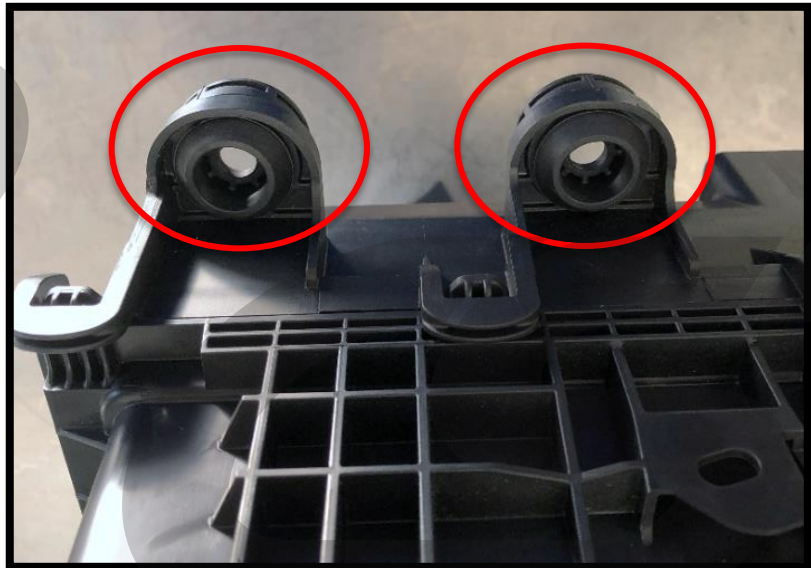

Figure 3a
- a) Locate the two rubber isolators from the rear of the OEM airbox. Shown **circled in red** in **Figure 3a**.